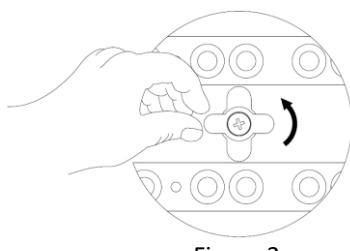
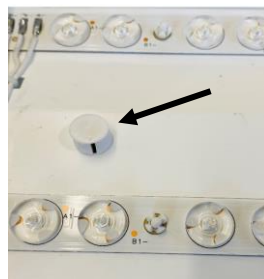

Figure 3
Figure 4
B. To remove the LED Tray board from the housing start by removing the two shipping screws located next to the twist tabs in the center of the LED Tray on each end of the board (fig. 2). The screws are only for shipping purposes and can be discarded after they are removed. Then turn the tabs 90° to line up with the holes in the Tray (fig.3). Lift the LED Tray away from the housing using the small white handles on each end of the board (fig.4).
- Replace the LED tray in the housing by lining up the holes in the tray with the tabs in the housing and turning them 90° (fig. 3).